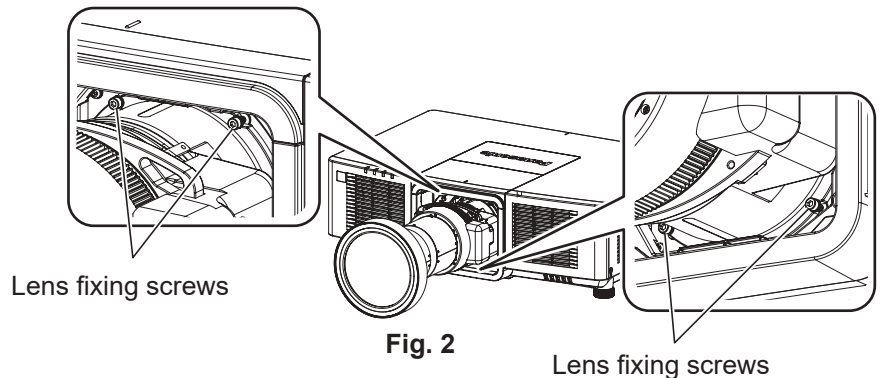

Fig. 2
- For the Zoom Lens (Model No.: ET-EMU100), remove the lens fixing screws (4 locations) around the projection lens using the ball point hex driver supplied with the Zoom Lens (Model No.: ET-EMU100). (Fig. 2)